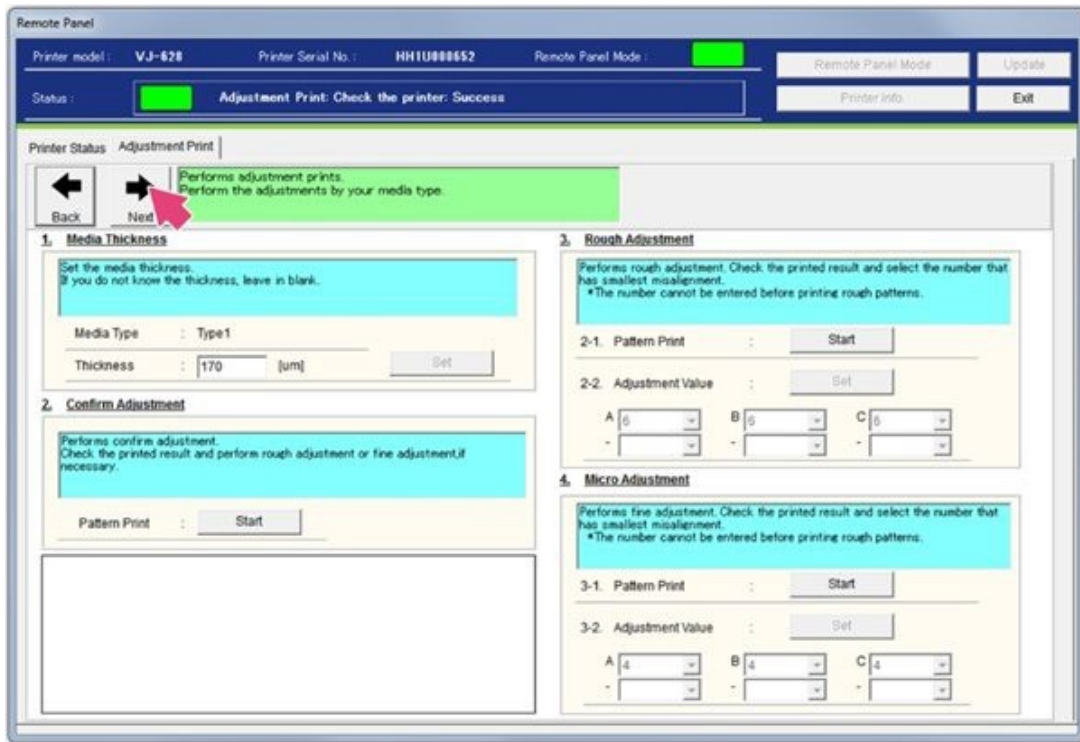

Figure 92
79. Select **Next** to Continue. See Figure 92.